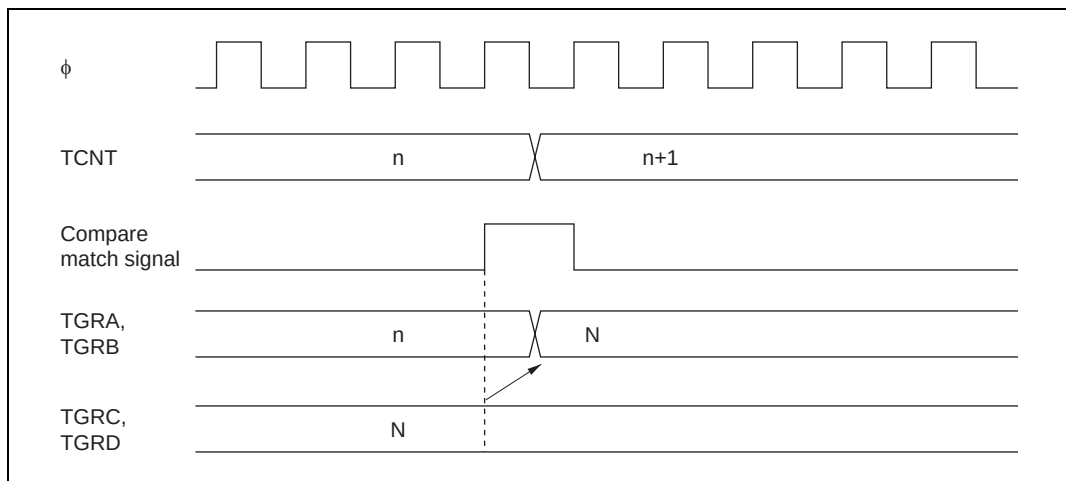

**Figure 9.40 Buffer Operation Timing (Compare Match)**
**Buffer Operation Timing:** Figures 9.40 and 9.41 show the timing in buffer operation.